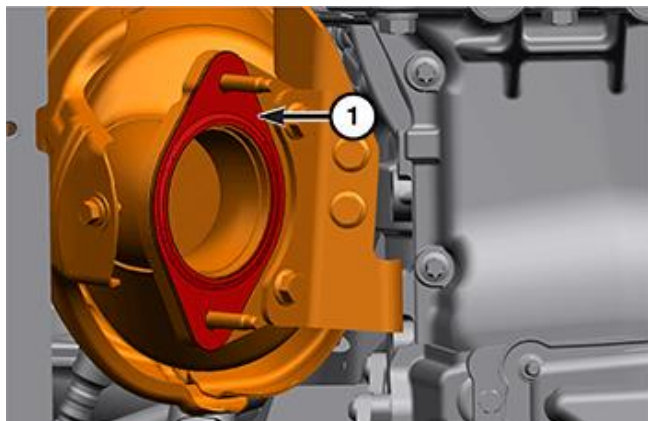

Figure 40 – Catalyst Flange Gasket
h. Remove and **DISCARD** the crossunder pipe to catalyst flange gasket (1) (Figure 40).